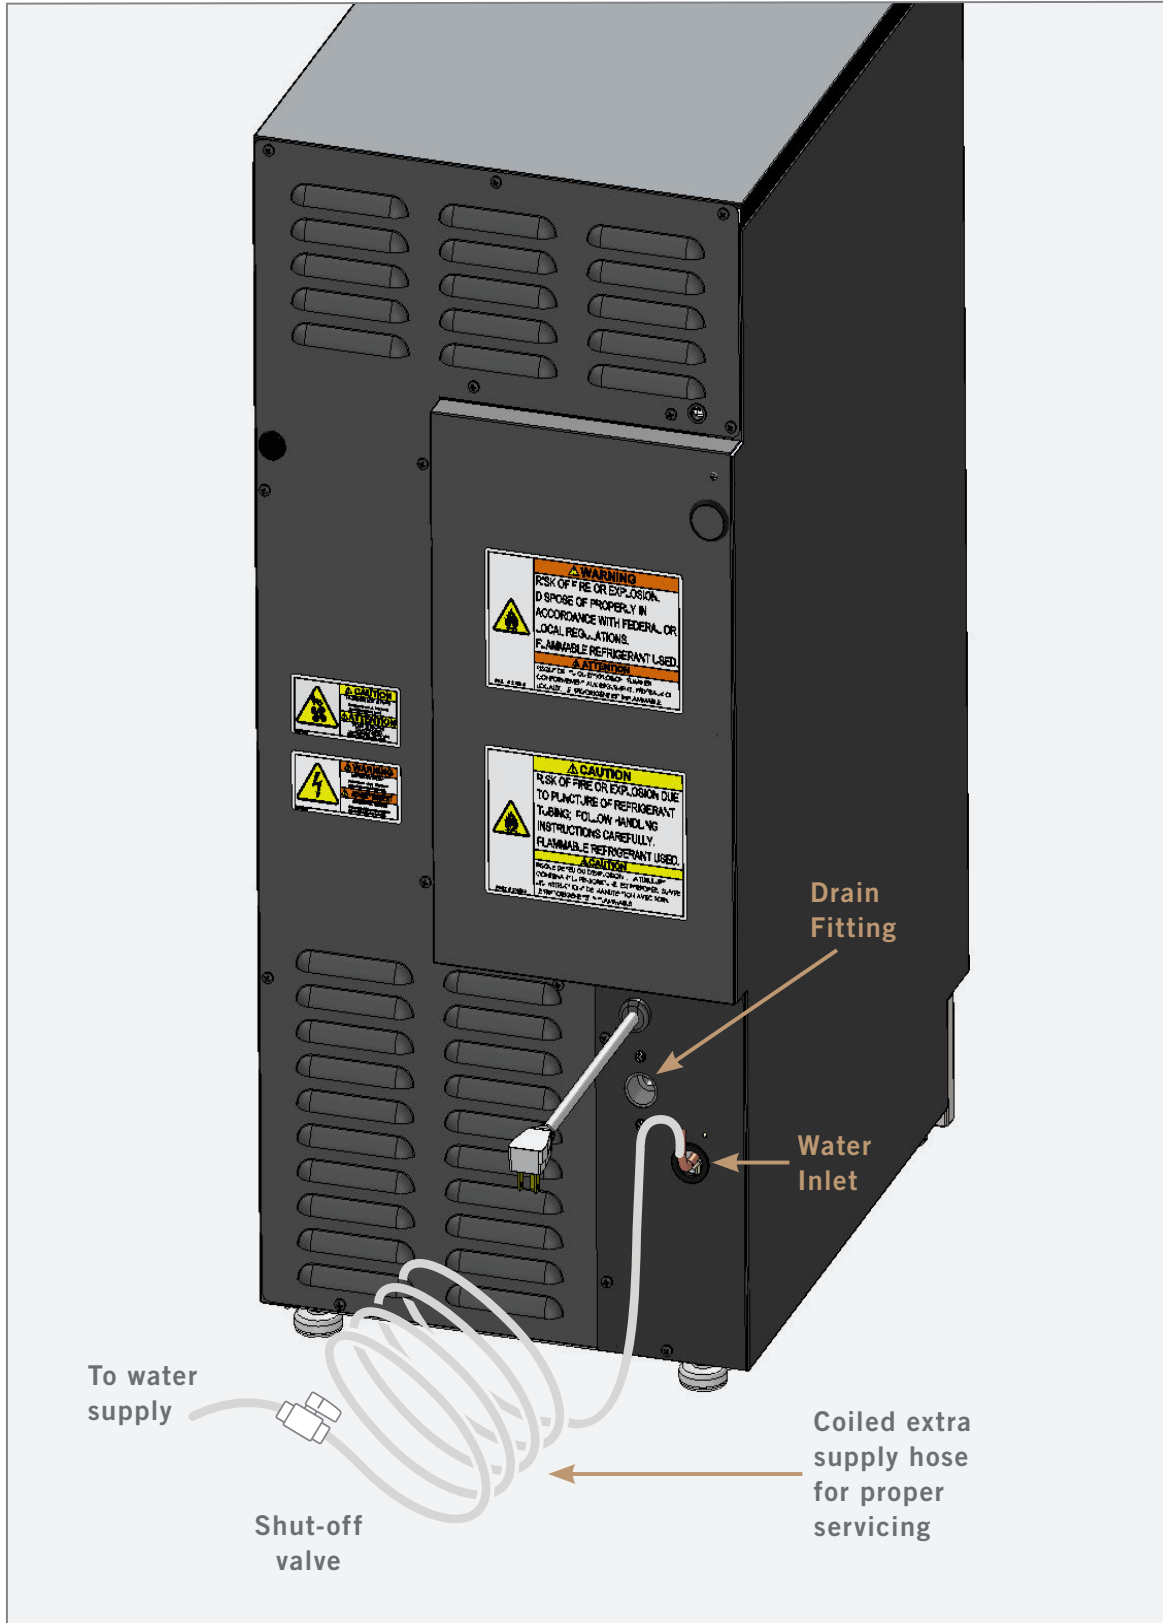

FIG. 1. Example of a water supply installation. Your application may differ.
- Connect the water supply line to the house supply with an easily accessible shut-off valve in your installation. See fig. 1.
Drain Connection	1/2" O.D. Female NPT Fitting (see fig. 1.)